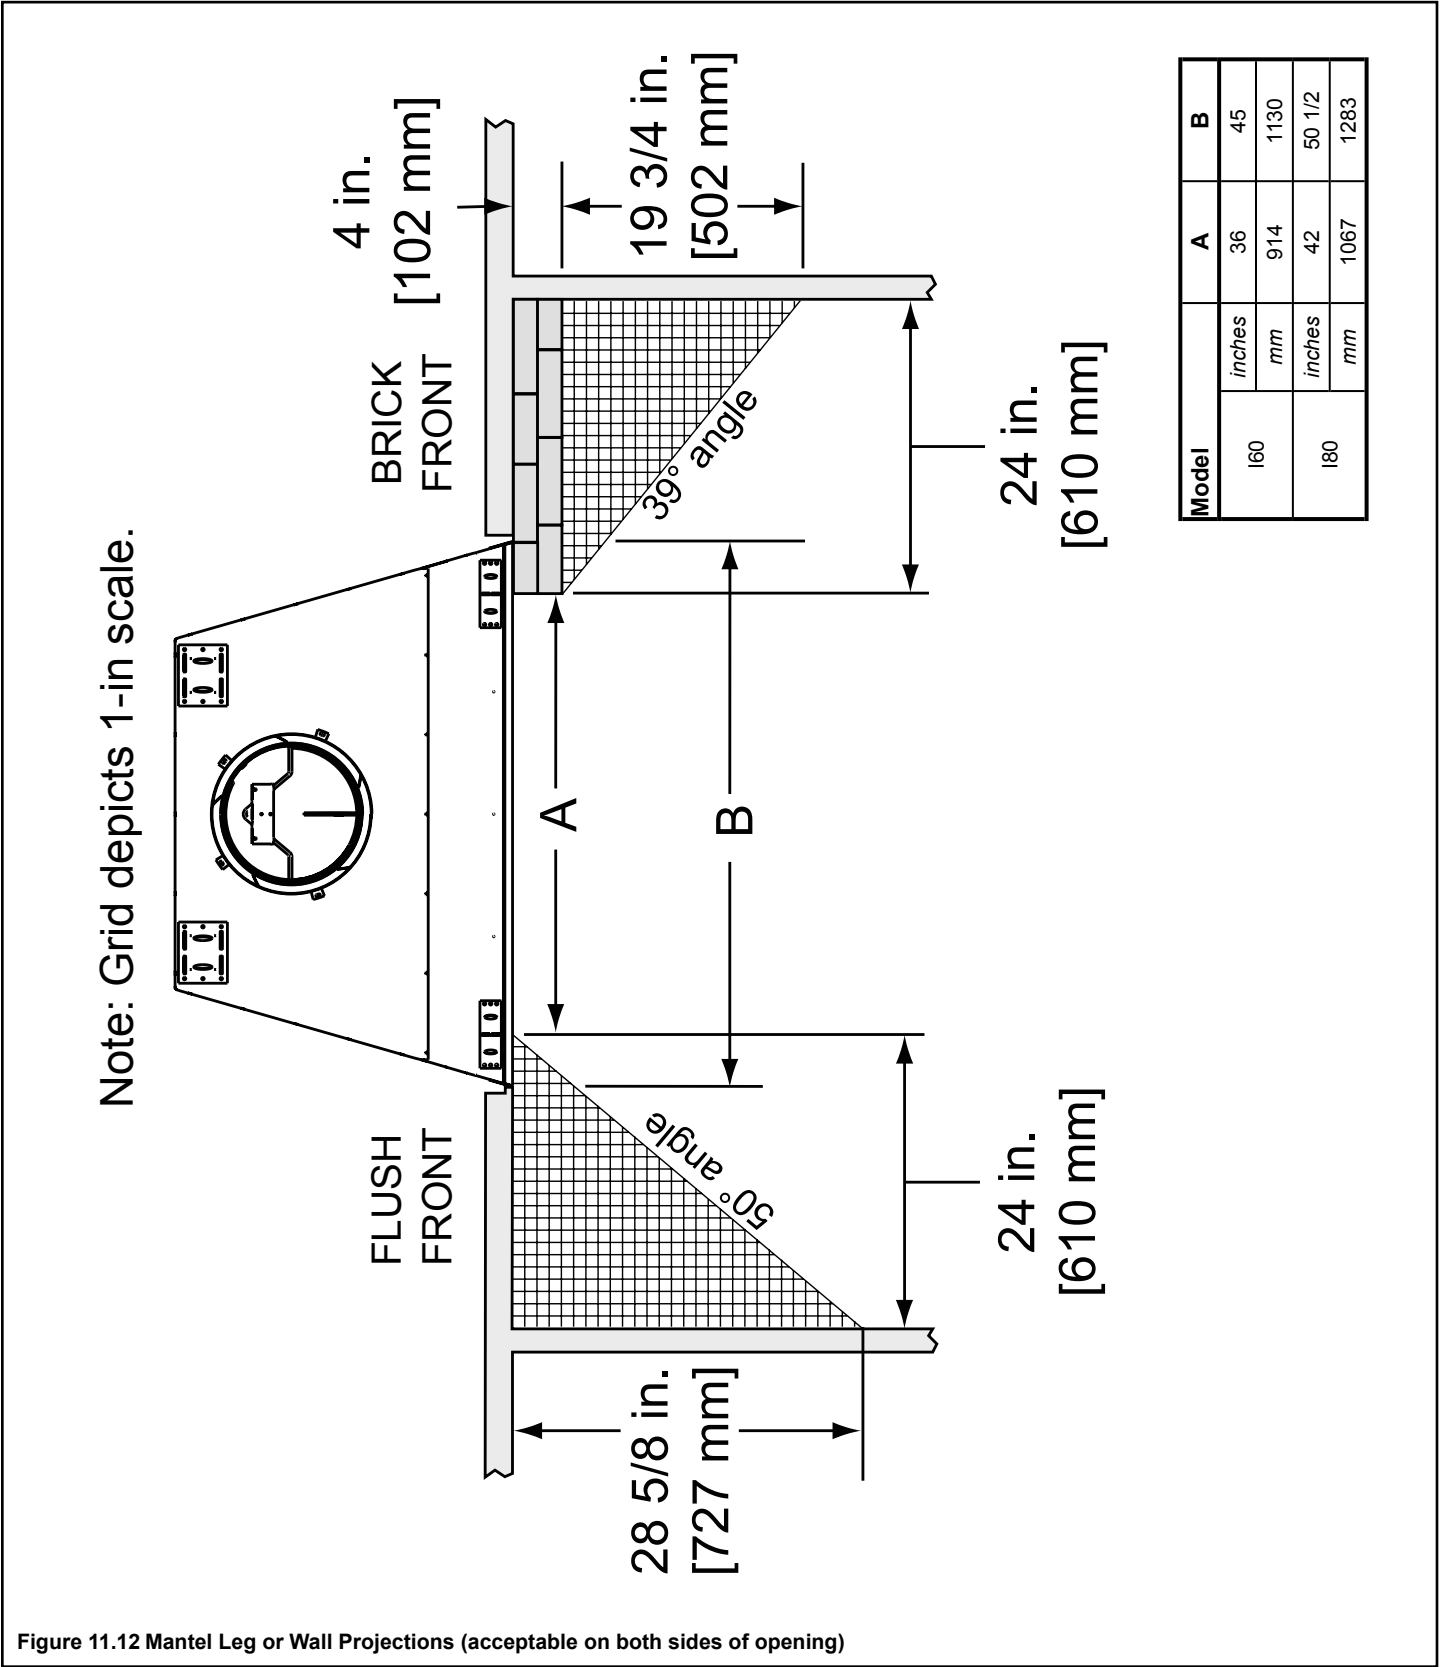

Figure 11.12 Mantel Leg or Wall Projections (acceptable on both sides of opening)
- Combustible or non-combustible mantel legs, surrounds and stub walls may be constructed per Figure 11.12.